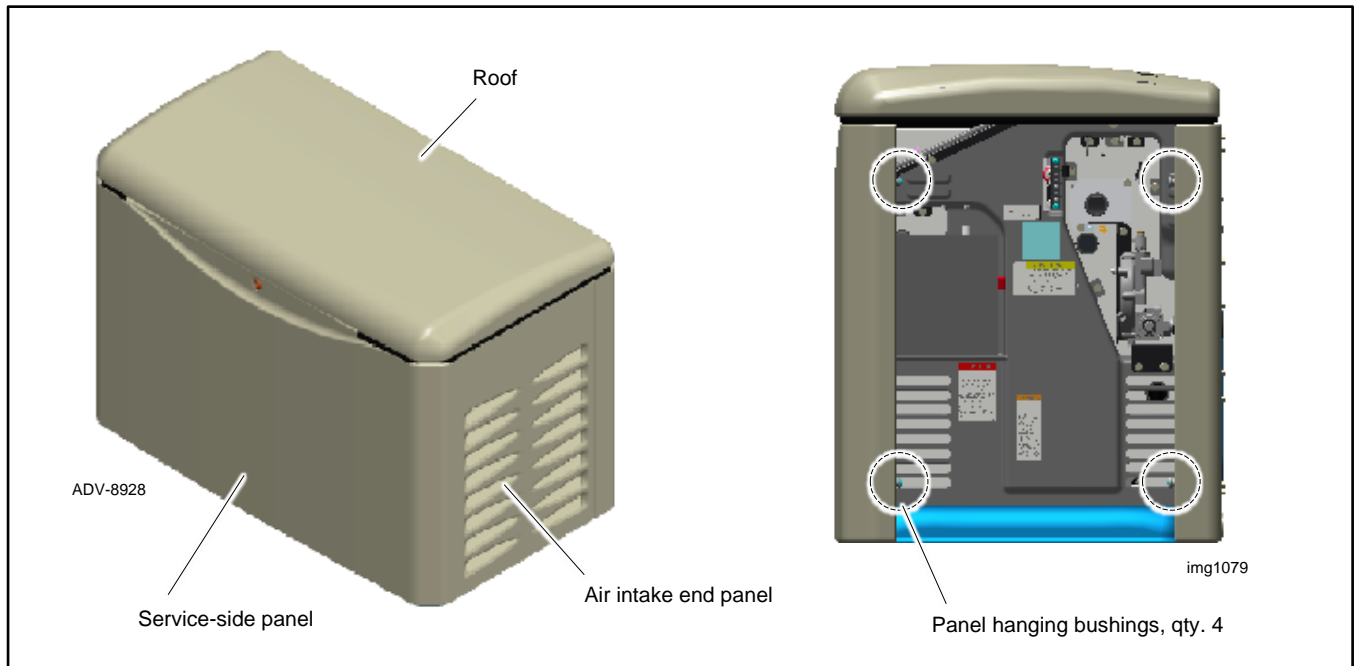

Figure 7 Removing the Air Intake Panel
2. The air intake panel hangs on four 20 mm (0.8 in.) diameter bushings. Pull the air intake panel up and off. See Figure 7.